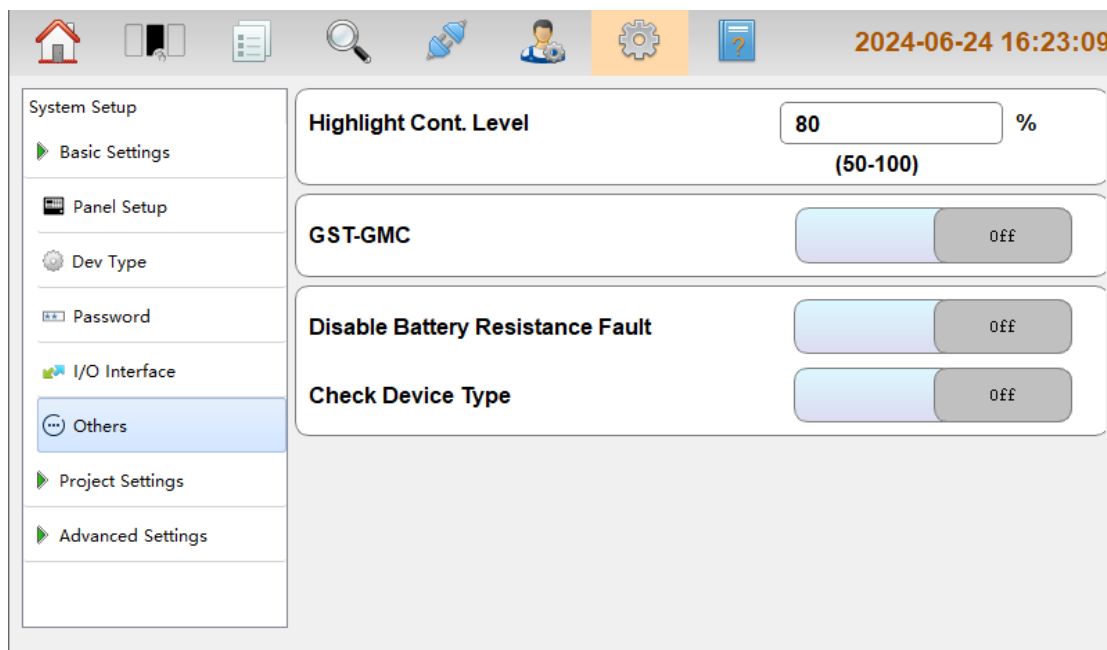

Fig. 4.7
- Others: Users can set dirty level and the switch of GMC, Disable Battery Resistance Fault, Check Device Type, after the change the switch of Disable Battery Resistance Fault, Check Device Type, the function require a reboot to take effect. **Others** menu as shown in Fig. 4.7